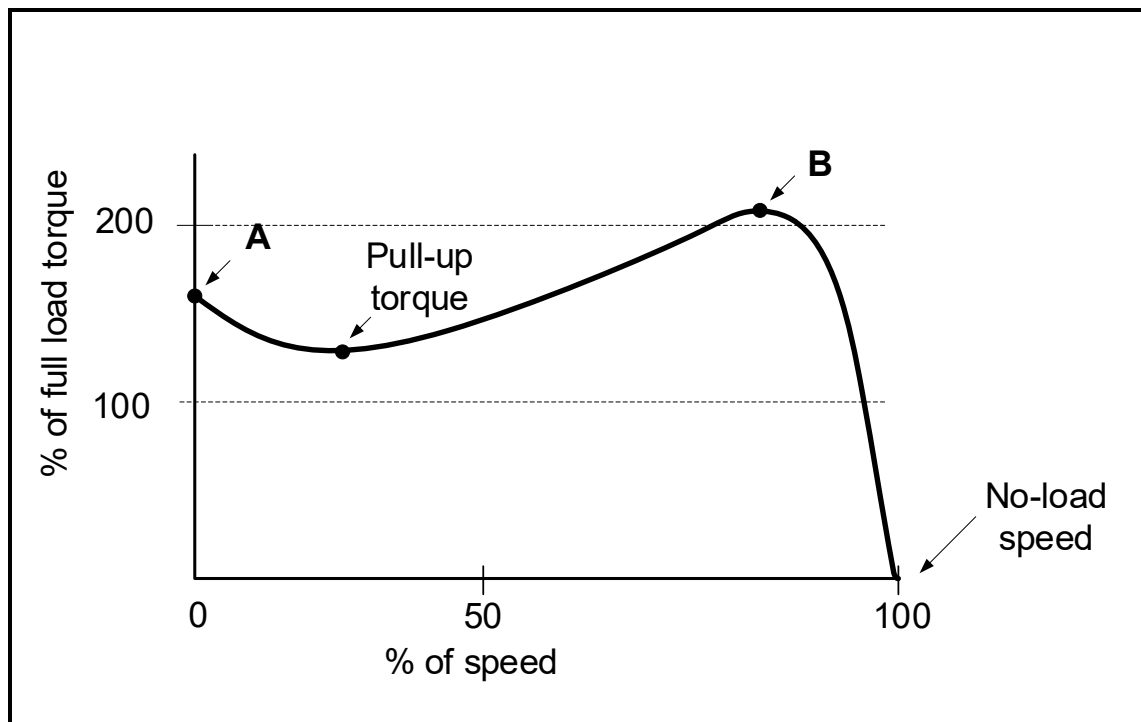

FIGURE 6.3: SPEED VERSUS TORQUE CHARACTERISTIC CURVE
- 6.3 Refer to FIGURE 6.3 below and answer the questions that follow.
- 6.3.1 Label **A** and **B** on the characteristic curve in FIGURE 6.3 above. (2)